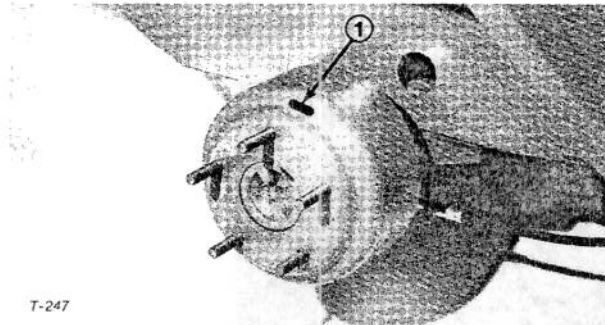
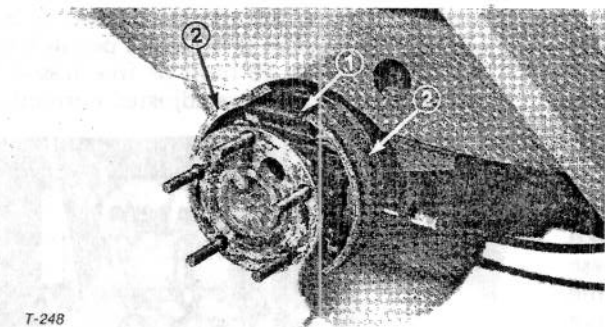

Figure 34
Figure 35
6. Remove wheel nuts and slide wheel and tire assembly off studs. Rotate brake drum until adjusting slot is at top and centered over star-nut that adjusts brake shoes (Fig. 34).
7. Using a brake adjusting tool or screwdriver rotate star-nut (Fig. 35) until brake drum (Fig. 34) locks because of outward pressure of brake shoes (Fig. 35).